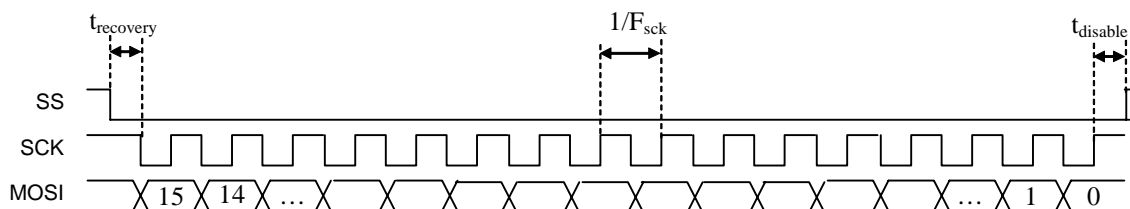

Figure 10: SPI signal timing
- 1) Leave the NRESET pin not connected. In this case the DAC will startup as described in figure 10.